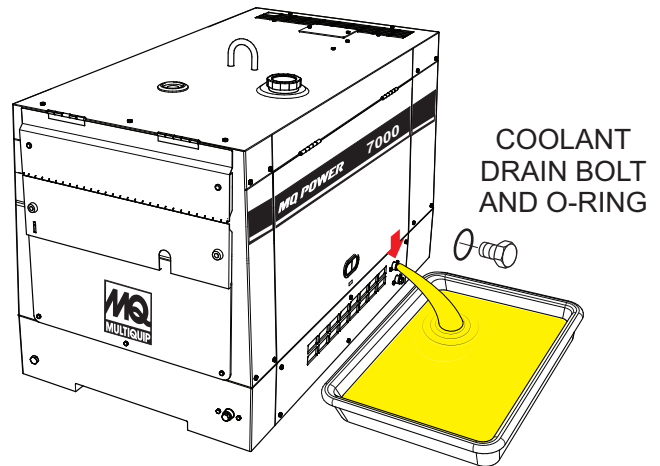

Figure 47. Coolant Drain Plug
2. Remove the coolant drain bolt and o-ring (Figure 47), then allow the coolant to drain into a suitable container.